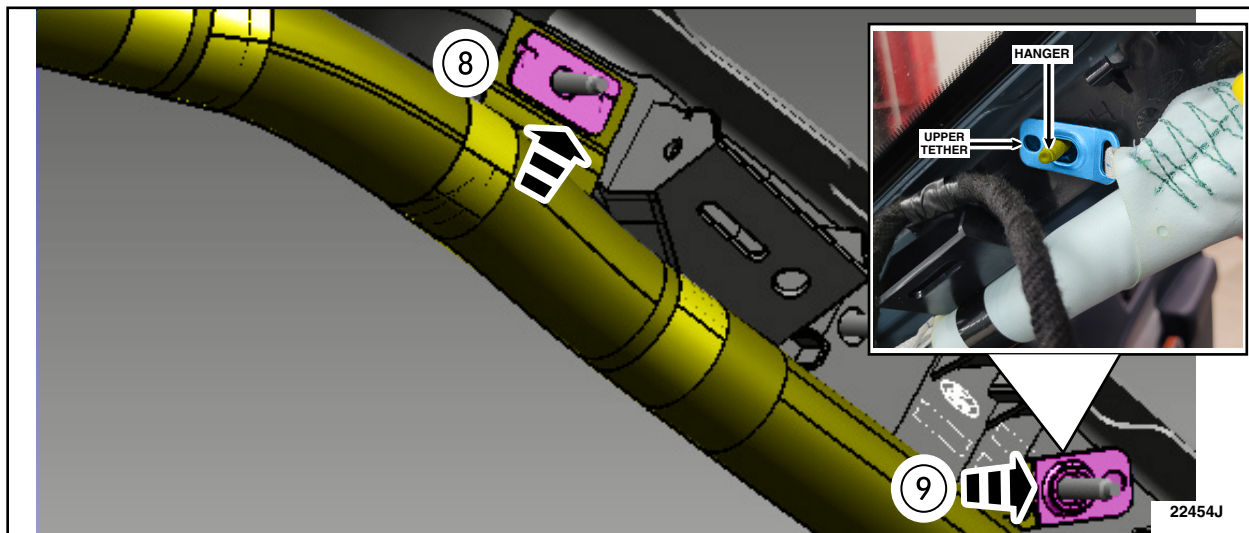

FIGURE 29
31. Attach the *new* side curtain airbag hangers. See Figure 29.